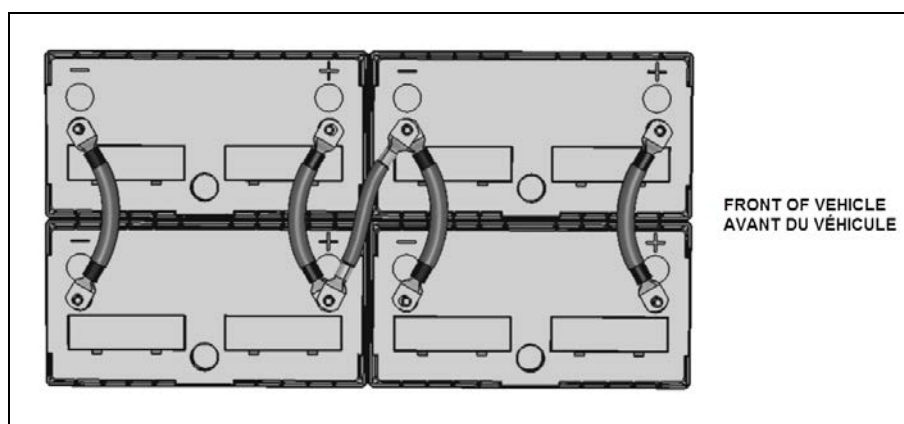

Fig.7 Positioning of the batteries in the battery box (positive and negative terminals)
12. Reinstall the batteries following Fig.7 bellow.